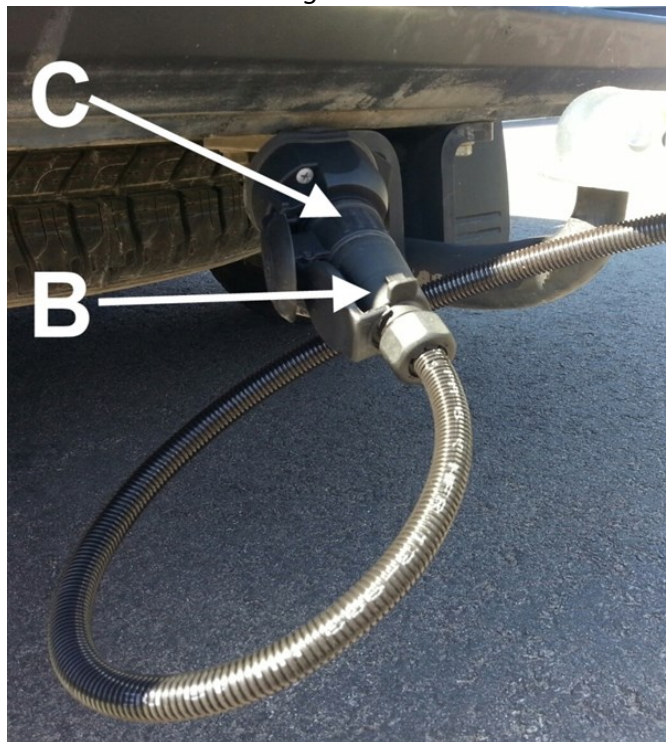

Figure 10.
5. Connect the electrical connector B to the vehicle's socket C, as shown in Figure 10.
1. Disconnect the electrical connector B (Figure 10). Grip and pull the connector's plastic section instead of the cable.